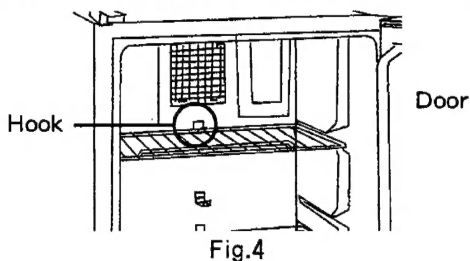

Fig.4
* In case you can not secure more than 4 inches clearance over the refrigerator, (in the installation box) you must provide at least 2 inches clearance along with a 40sq. inch rectangular opening on one of the locations shown in the fig 4 A,B,C, or D.